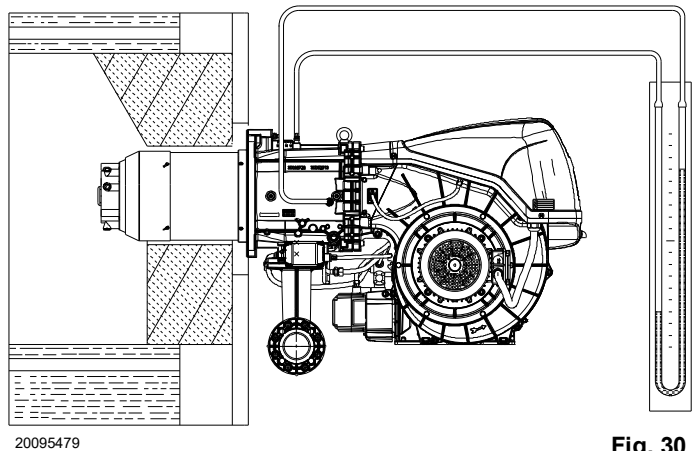

Fig. 30
- Fit a U-type manometer (Fig. 30) to the gas pressure test point on the sleeve. The manometer readings are used to calculate MAX. burner power, see page 24.